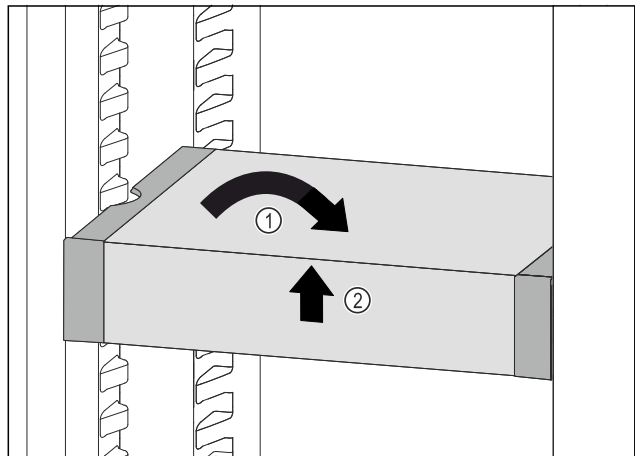

Fig. 32
- ▶ Set VarioSafe straight. Fig. 32 (1)
- ▶ Lift VarioSafe at the front. Fig. 32 (2)